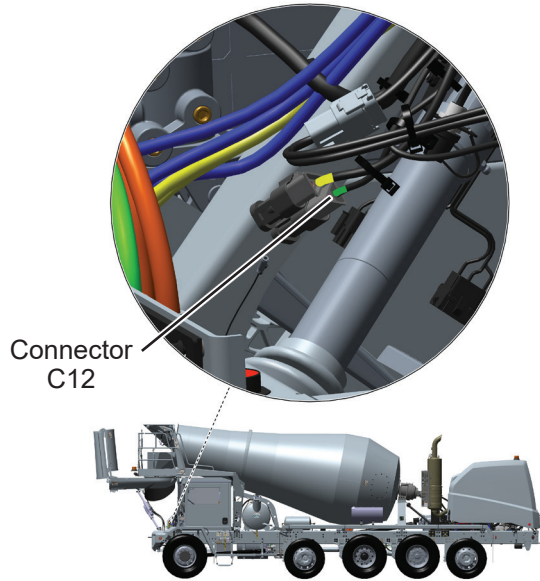

Figure 27
- b. Plug in PCAN adapter cable to laptop. Remove terminating resistor receptacle and connect PCAN adapter to green connector C12 near driver's left foot area in cab. See Figure 27.